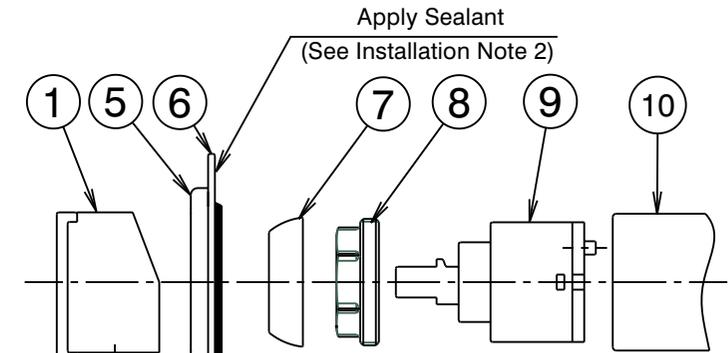
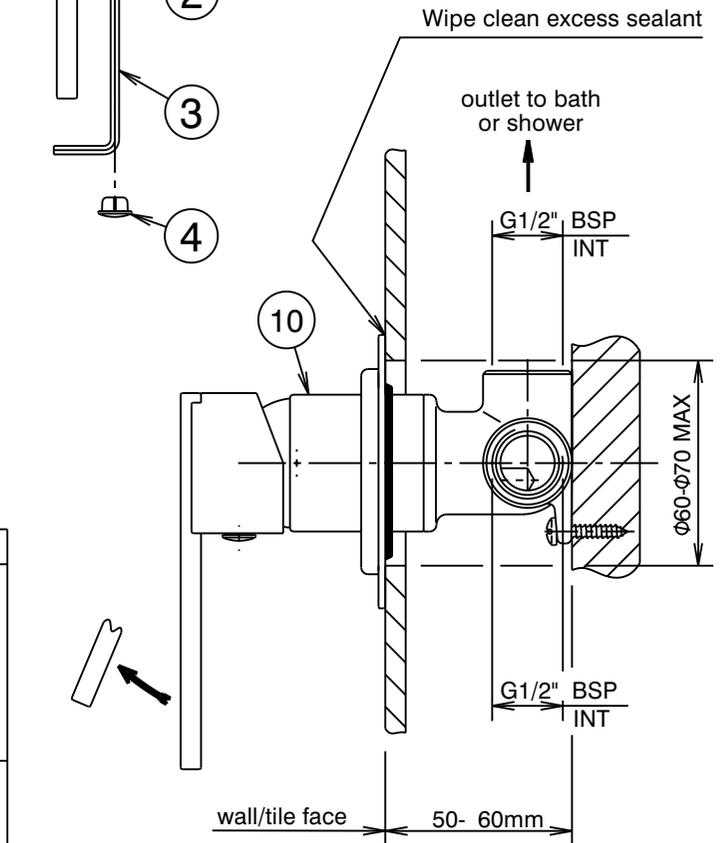

Fig. 2
Fig. 1
### Installation (Fig. 1 & 2)
- \* Mixer body (10) must be installed square to wall/tile face, to ensure cover plate (6) sits flush.
- 2) Apply a suitable clear sealant to the back face of the cover plate (6) to prevent water from entering the wall cavity, leaving an unsealed section at the bottom for drainage. (See Fig. 2). Carefully slide the cover plate (6) together with trim cover (5) onto the mixer body (10), push firmly on the trim cover until cover plate (6) contacts the wall/tile face & sealant has formed a waterproof joint. Wipe clean any excess sealant from the chrome surfaces & the wall/tile face (See Fig. 1).
- 3) Fit handle (1) as shown, taking care that it is pushed fully down, then tighten grub screw (2) using 2.5mm allen key (3). Insert plug (4) taking care not to damage the decorative finish.
### Replacing Cartridge (See Fig. 2)